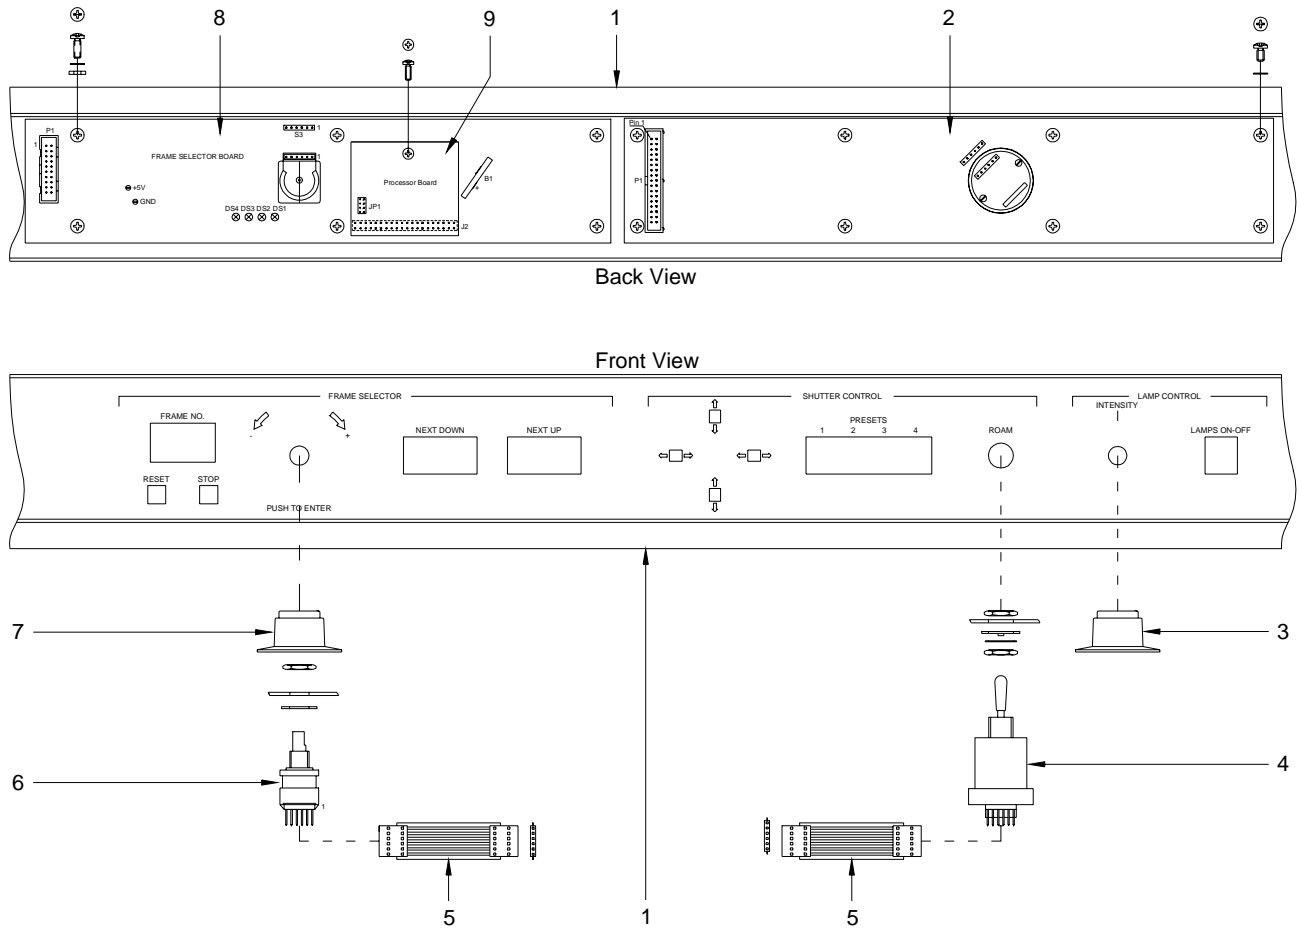

Figure 5-9-3. Control panel Components
5.9.2 Replacing Rotary Encoder (6), see Figure 5-9-3
5.9.3 Replacing Shutter Joy Stick (4), see Figure 5-9-3
5.9.4 Replacing Frame Selector Board (8), see Figure 5-9-3
5.9.5 Replacing Shutter Switch Board (2), see Figure 5-9-3